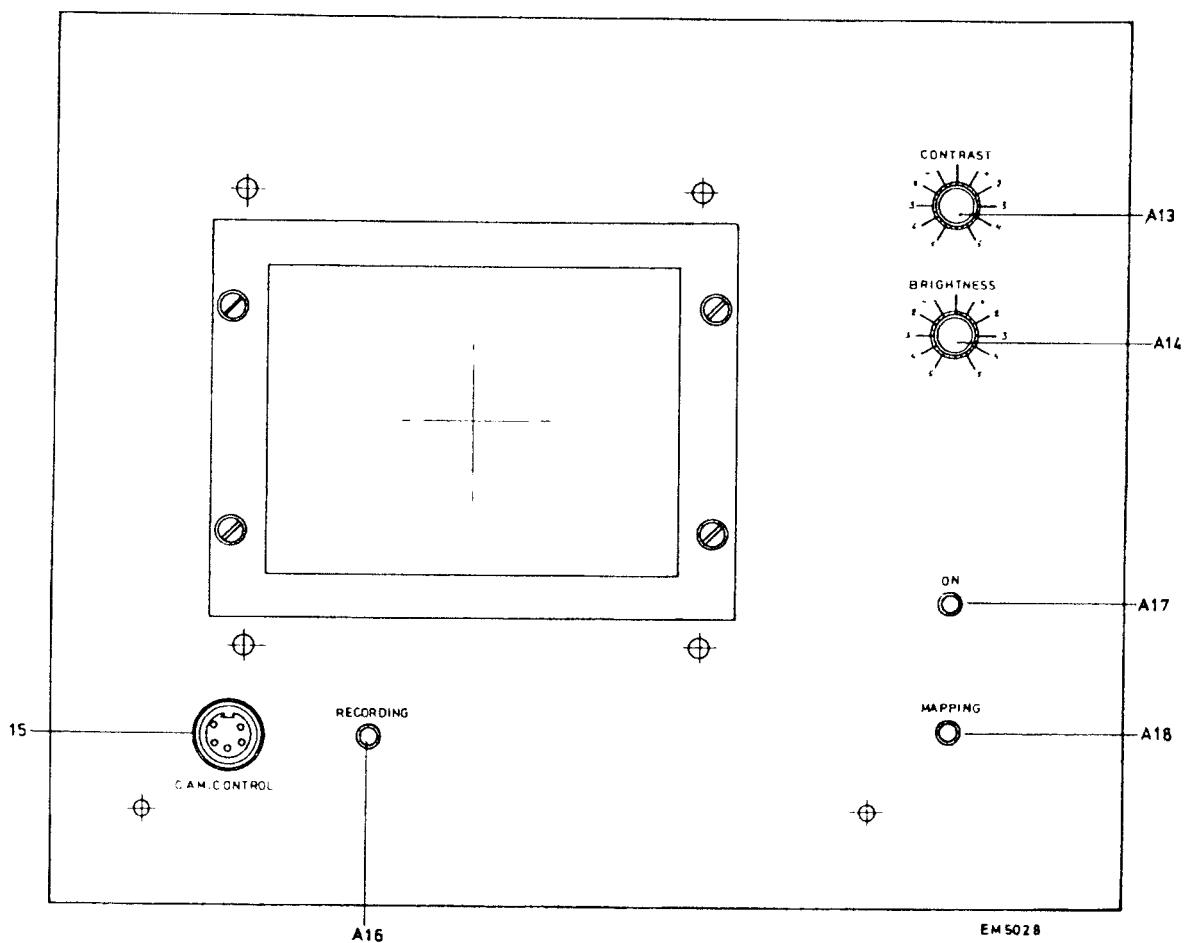

Fig. 7.4, Panel controls - High resolution Photomonitor
7.1.6 HIGH-RESOLUTION PHOTOMONITOR controls (see Fig. 7.4)